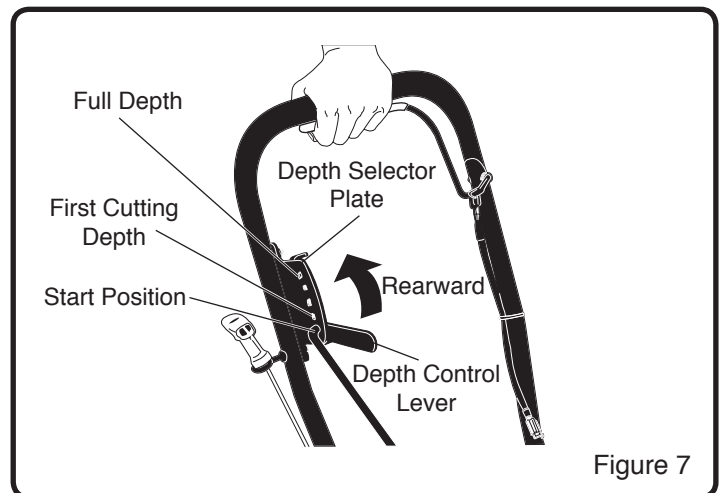

Figure 7
1. Place the edger on a level surface. Put the depth control lever in the first cutting depth (See Figure 7), and check that the frame of the edger is level.
Move the Depth Control Lever rearward to increase the depth. (See Figure 7)
3. Put the depth control lever in the starting position (See Figure 7). This will slightly tilt the frame and engine toward the rear.